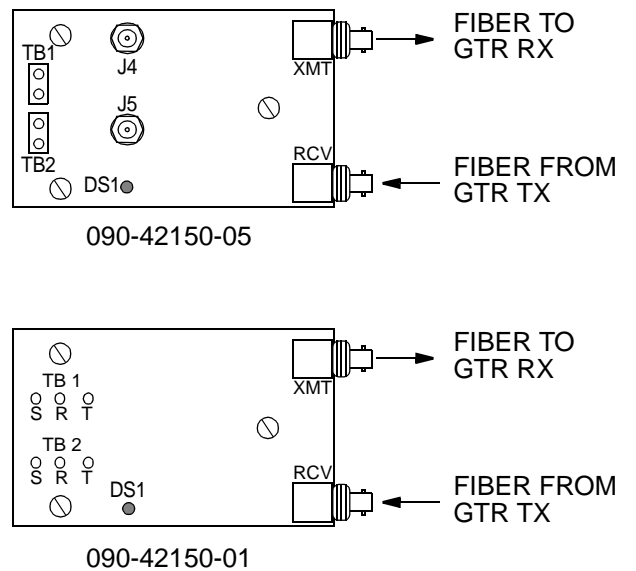

Figure 38. GTI Fiber I/O Module
4. Two-port Fiber I/O Module. Mounted and connected to J9 (I/O A) on the DCD-LPR for the GTR which has a corresponding GTI card installed in Slot A, and to J10 (I/O B) for a GTR which has a corresponding GTI card installed in Slot B. See also Figure 38.
4.21 There are two fiber optic cable connections (XMT and RCV) to the DCD-LPR via the GTI fiber I/O module(s) (Figure 38). GTI fiber I/O modules are installed on connectors labeled “I/O A” and “I/O B” (J9 and J10) on the DCD-LPR backplane (Figure 32B).